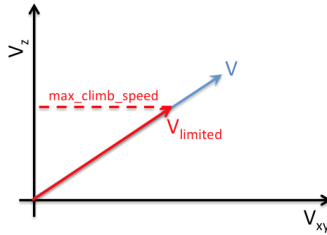

Figure 0.5: The bounds on the vertical component of the velocity.
- a) Bound the desired velocity such that the vertical component of this velocity is below navigation- \rightarrow max_climb_speed (see Fig.0.5),